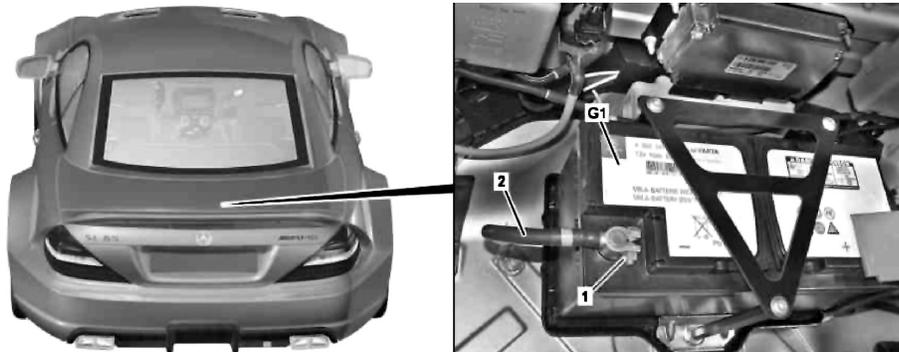

Fig. 3 Primary battery ground removal. With (P99) AMG black series
5. Loosen nut (1), and disconnect ground lead (2) from on-board electrical system battery (G1), **Fig. 3**.